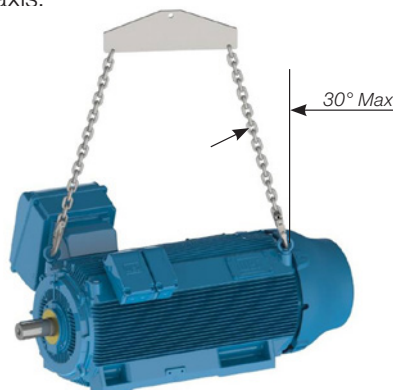

Figure 4.3 – Maximum resultant angle for horizontal HGF Ex ec motors
- For HGF Ex ec, W50Xec and W51HDXec motors, as shown in Figure 4.3, the maximum resulting angle should not exceed 30° in relation to the vertical axis.